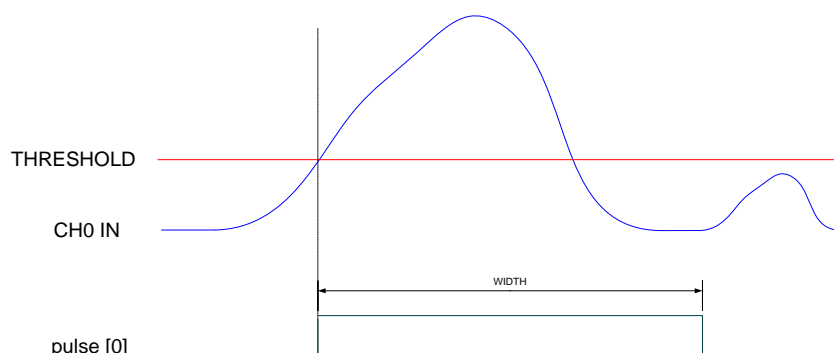

Fig. 10.14: Channel pulse signal
- a pulse of configurable width (see **Fig. 10.14**); the width parameter can be set at register address 0x1n70.